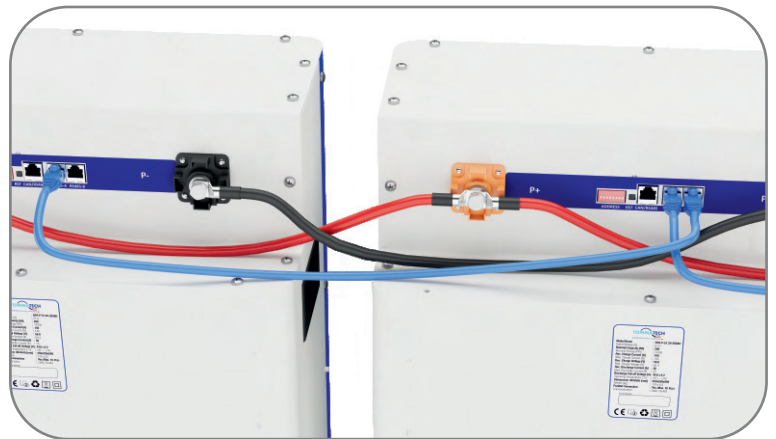

Figure 7.11
STEP 11: Connect the RJ45 communication cables of the modules from the RS485B port of the first selected battery to the RS485A port of the next battery in sequence, from B to A, for each battery as shown on page 9. (Figure 7.11)